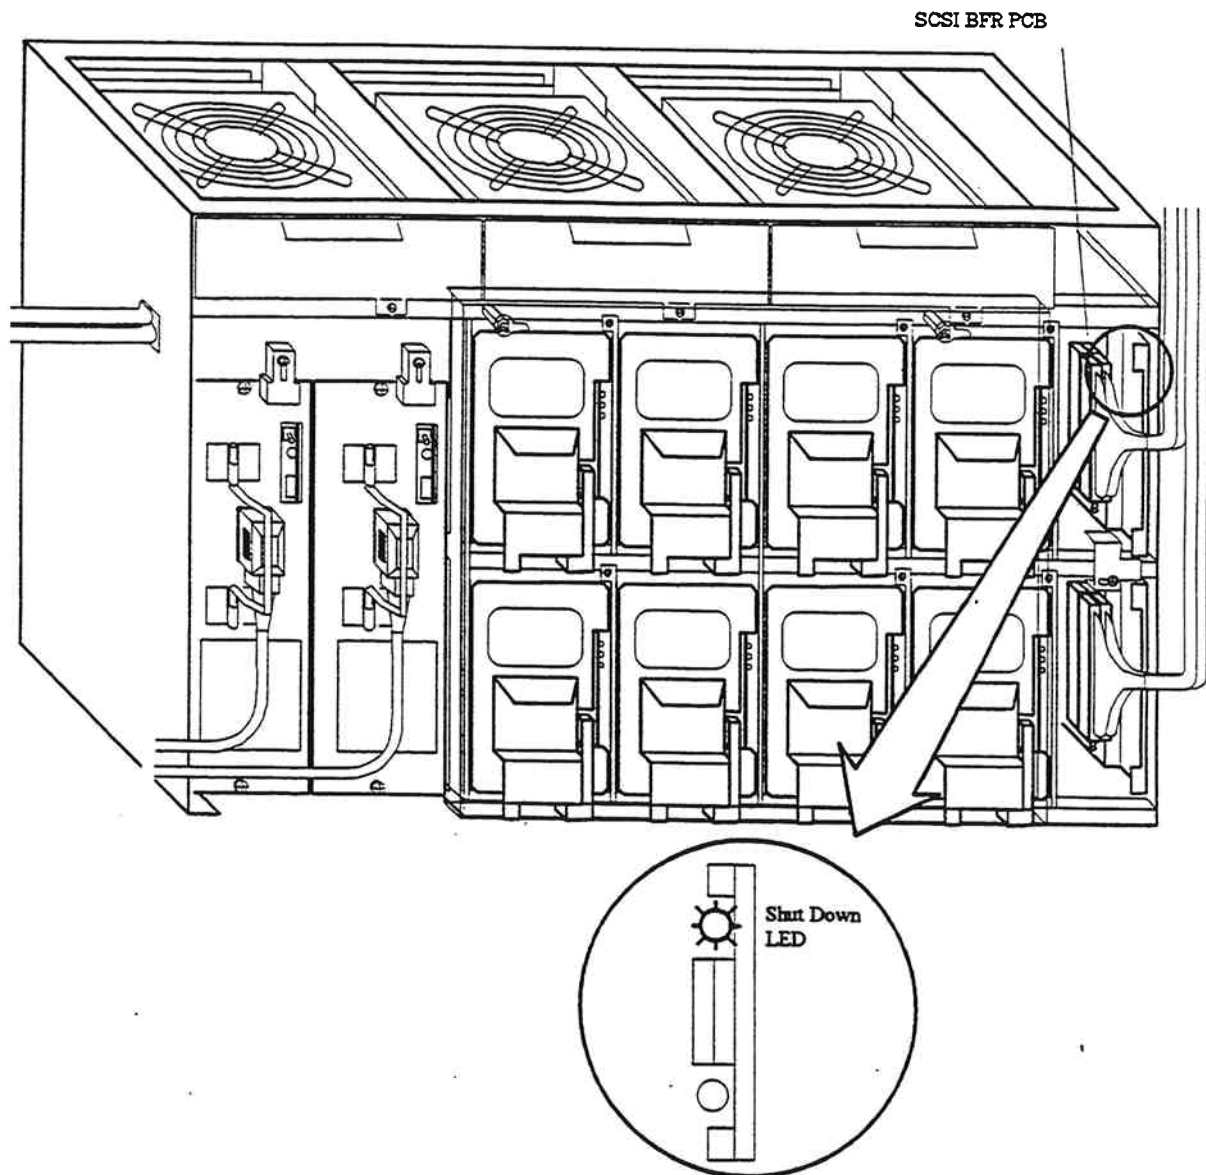

Fig. 3.4.3.2.6-1 Confirmation of the Shut Down LED Light
2. Disconnect the SCSI interface cables from the SCSI BFR PCBs in the second DKU chassis referring to figures 3.4.3.2.6-2 and 3.4.3.2.6-3.